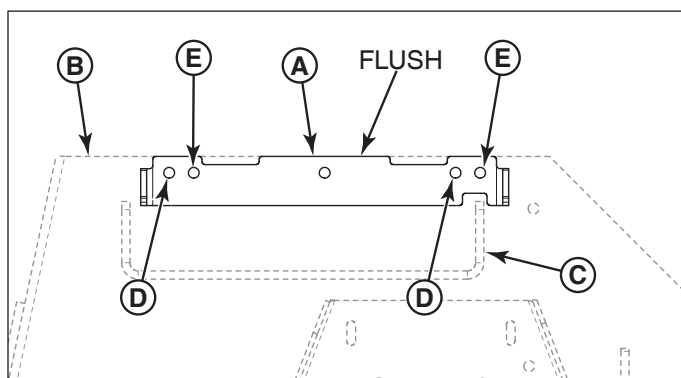

Figure 2. Installing the Bagger Mount Bracket (Walk-Behind Mowers)
1. Align the bagger mount bracket (A, Figure 2) flush with the edge of the mower deck (B) above the discharge opening. Position the bagger mount bracket so that the leg of the discharge chute bracket (C) fits into the notch in the bagger mount bracket.
3. **For Walk Behind Mowers (48" Mower Decks - S/N: 2017555756 & Below and 52" Mower Decks - S/N: All):** Using the bracket as a guide, drill two (2) .328 holes (D, Figure 2) through the mower deck.
For Walk Behind Mowers (48" Mower Decks - S/N: 2017555757 & Above): Using the bracket as a guide, drill two (2) .328 holes (E, Figure 2) through the mower deck.